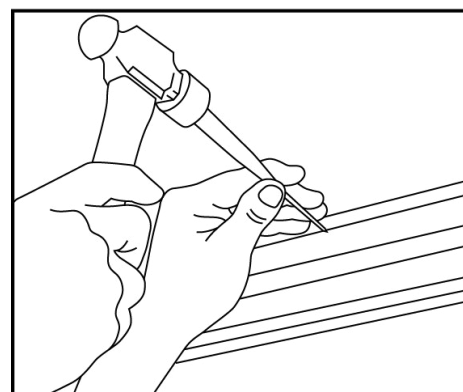

Fig.22
2. Using a metal punch, indent the marks just made to create a dimple to center the drill bit and keep it from wandering **(Fig.22)**.